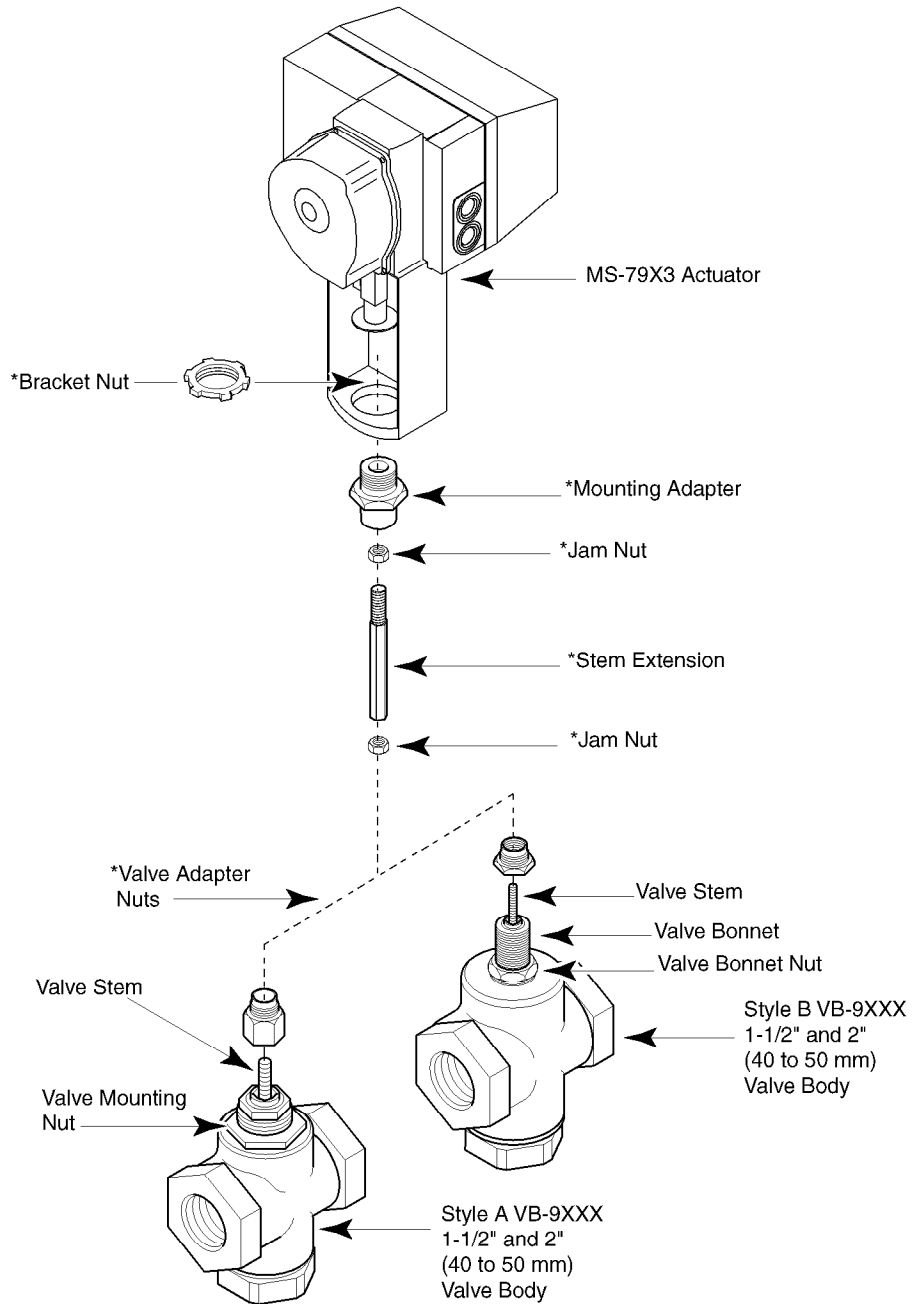

Figure-9 Typical Obsolete VB-9XXX 1-1/2" and 2" Valve Assembly.
2. See Figure-9 to identify the valve as a Style A or Style B VB-9XXX valve body.
6. With valve at its normal stem up position, place the small jam nut onto the valve stem and screw it all the way down to the bottom of the threads. Refer to Figure-9.